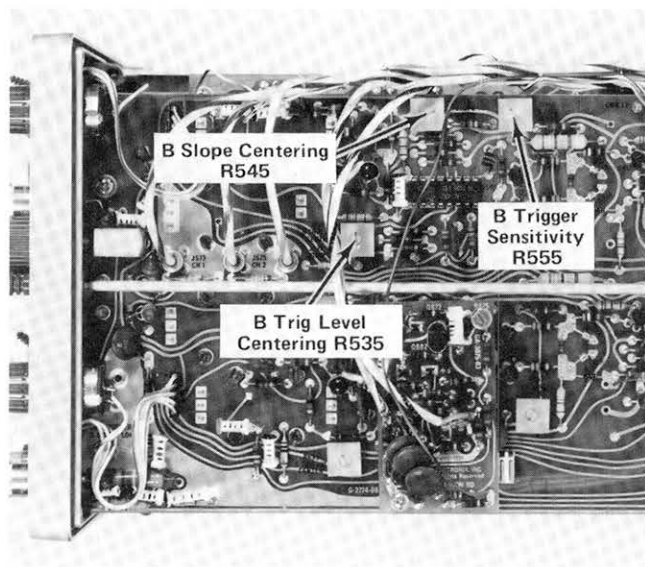

Fig. 5-25. Location of B Trigger Sensitivity, Slope Center, and Level Center adjustments.
e. ADJUST—B Trigger Sensitivity adjustment, R555, (see Fig. 5-25) so that a stable display can just be obtained by rotating the B LEVEL control.
e. ADJUST—B Trigger Level Centering adjustment, R535, (see Fig. 5-25) for the trigger point of the display to be at the graticule center, and adjust the B Trigger Slope Centering adjustment, R545, (see Fig. 5-25) so that the trace begins at the graticule center in both the + and - slope.